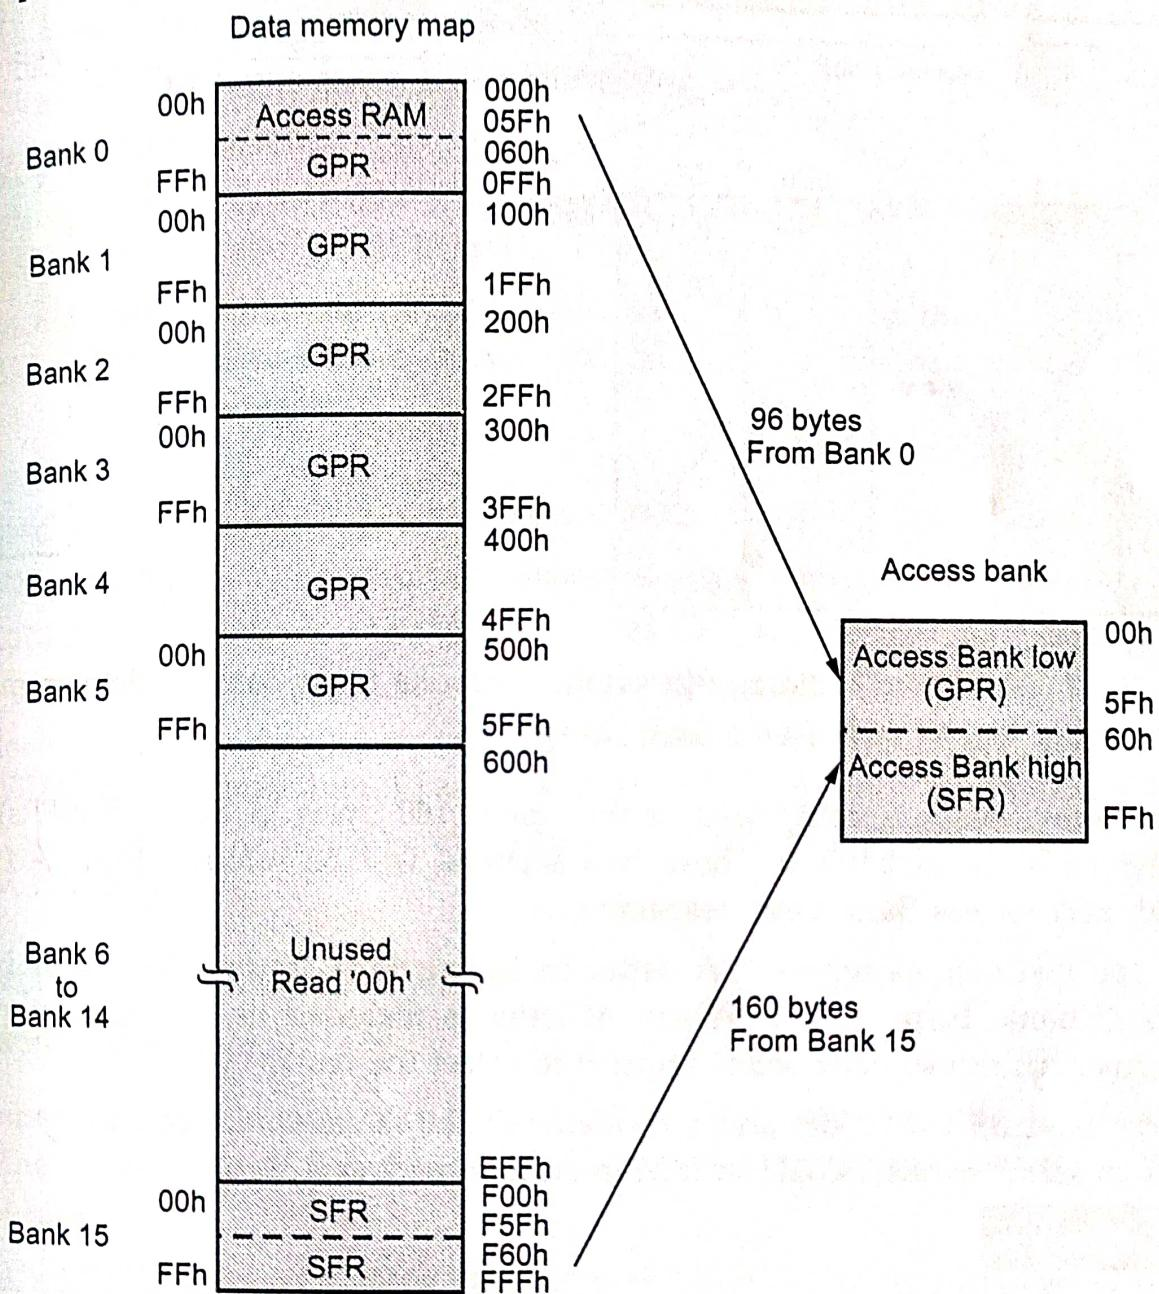

Fig. 2.7.1 File register data memory for PIC18F258/458
- Fig. 2.7.1 shows the file register organization for the PIC18FXX8 devices. It is 4096 bytes of data memory with 12-bit address for each register.